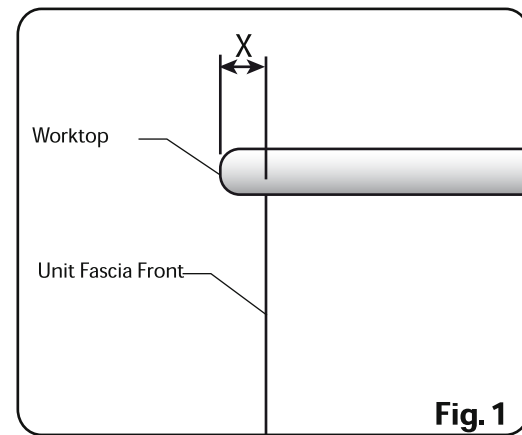

Fig. 1
2. Measure the worktop overhang from the fascia front on the unit, 'distance X' (see Fig. 1)
Worktop Overhang (distance 'X' in Fig.1)